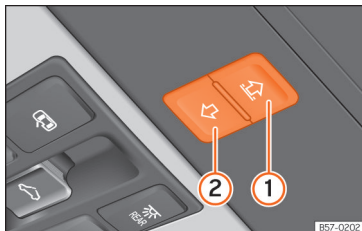

Fig. 105 On the interior roof lining: sunshade blind buttons.
Buttons **»» Fig. 105 ①** and **②** have two levels. The first level opens or closes the sun blind fully or partially.
- *Sun blind*: within approximately 5 seconds of activating the roll-back function, press and hold button » Fig. 105  until the blind is fully closed.